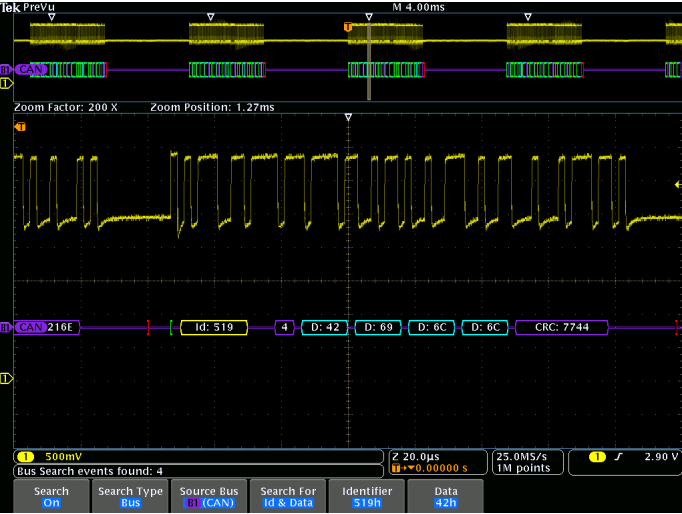

Figure 6. Searching for specific Identifier and Data values in CAN messages.
While this triggering is critical to isolate the time window that contains the problem, it's highly likely that you'll need to view bus activity over many packets to understand what's going on at a system level. The bus search feature enables you to specify packet level criteria and mark every occurrence of it in the record for quick viewing, navigation and analysis. Continuing the earlier CAN example, in Figure 6 we've searched for every message in a long acquisition of a CAN bus with the specific Identifier (519) and Data (42) values we're interested in.